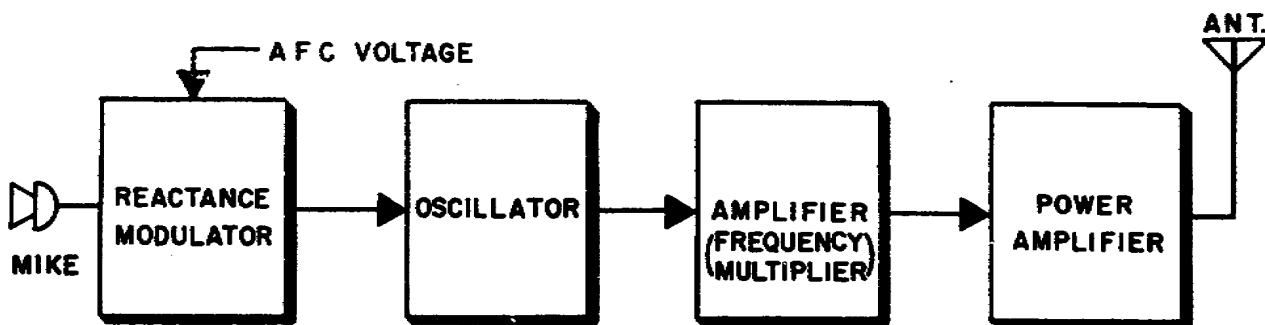

Figure 3. Block diagram of a typical FM transmitter.
b. Figure 3 is a block diagram of a transmitter in which the carrier is **FREQUENCY-MODULATED**. The voice frequencies from the microphone are fed to a special type of modulator called a reactance modulator. The output of the modulator causes the frequency of the oscillator to change.
(1) The speed at which the oscillator changes frequency depends upon the frequency of the voice signals fed into the microphone.
(2) The amount that the frequency changes from the original carrier depends upon the amplitude of the voice frequencies from the microphone.